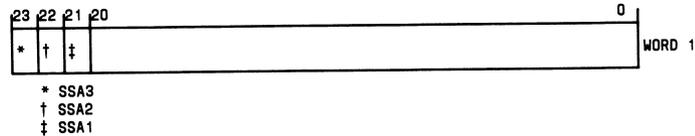

Fig. 2—Cell Master Status Auxiliary Block, Word 1
3.07 Three items (1-bit flags) in word 1 of the cell master status auxiliary block apply (Fig. 2). Each flag represents a particular SSA that is associated with that cell. Any non-CN Roamer 1 mobile may be denied service depending upon the state of the equivalent flag associated with the RSL entry mentioned in the preceding paragraph. These flags are assigned to bits 20 through 22 of word 1 (i.e., the second word) of each cell's master status auxiliary block. Unused flags are set to zero.